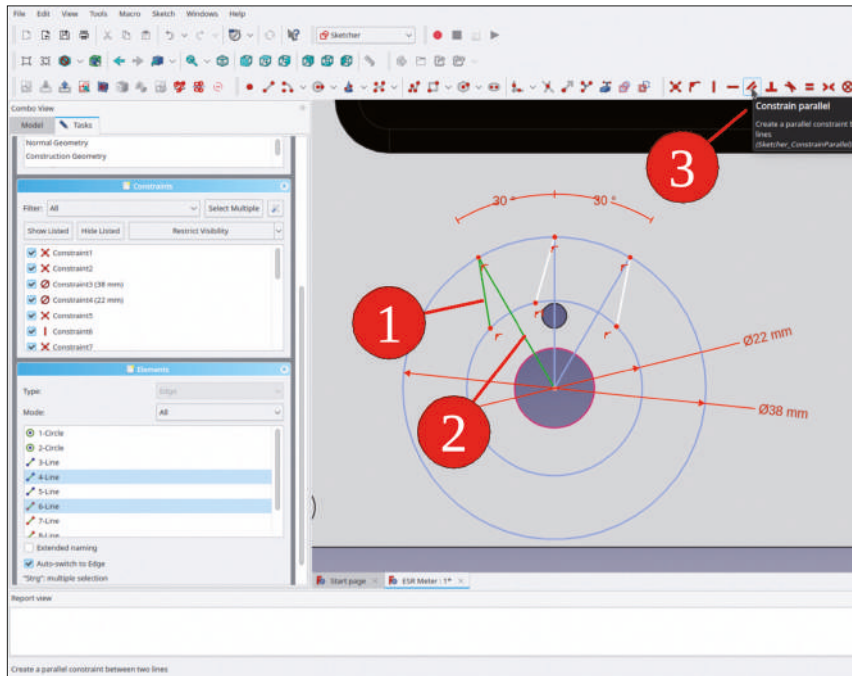
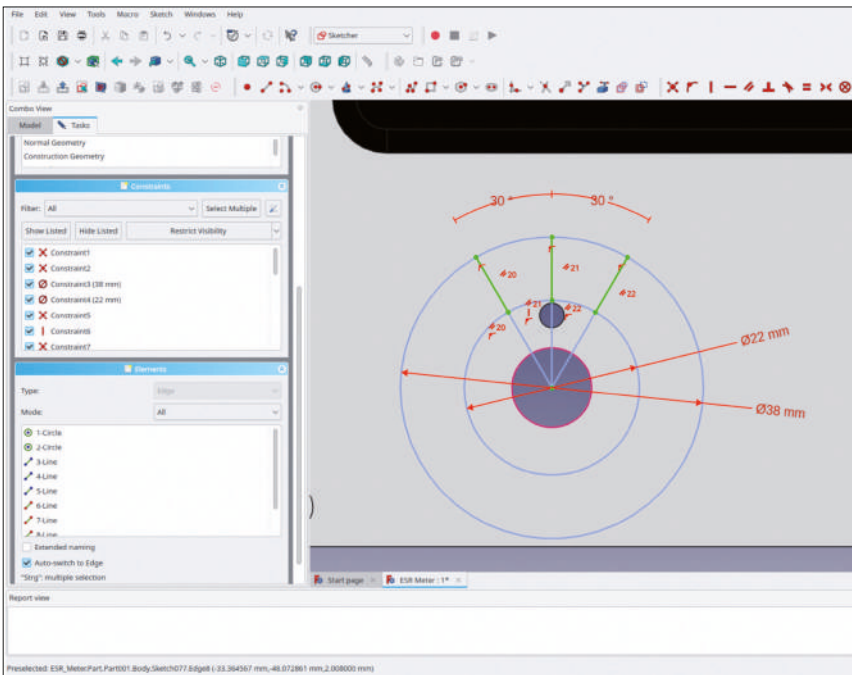

Figure 8-10
Figure 8-11
14. For each of the three cases, mark one of the new lines and the corresponding construction line. Then, click the 'Constrain parallel' tool button (Figure 8-10). The result is shown in Figure 8-11.